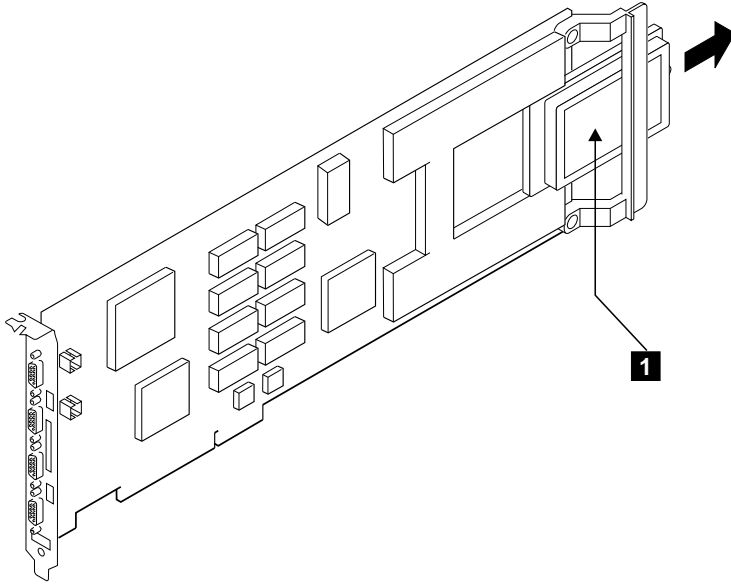

Figure 3. Removing the Fast-Write Cache Card
6. Referring to Figure 3, pull the Fast-Write Cache card **1** in the direction shown by the arrow in the diagram. This action unplugs the card from the connector on the adapter card.